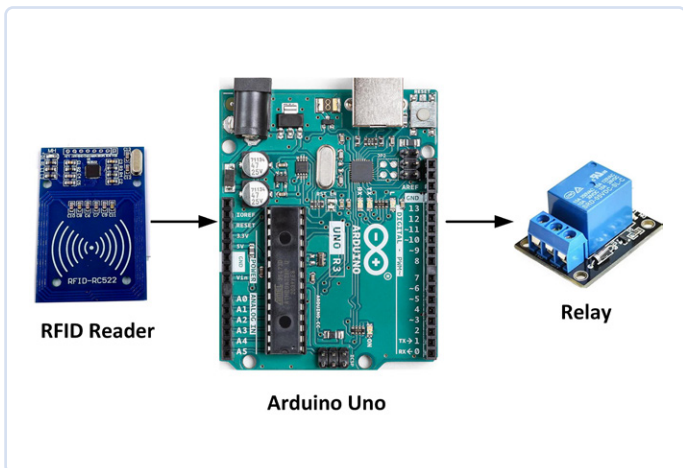

Figure 5: Access control project block diagram.
**Block Diagram:** Figure 5 shows the project's block diagram. Again, images of the real boards are used rather than a theoretical or abstract representation with functional blocks.